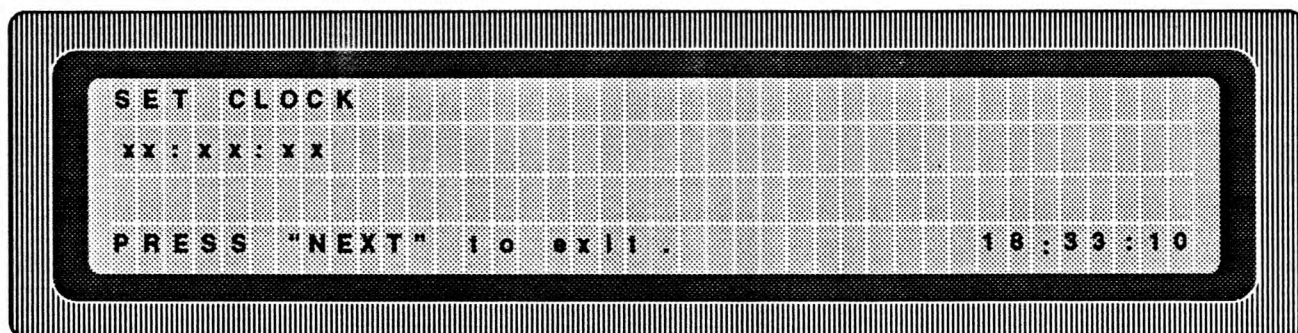

Figure 3-3. Set Clock
a. **SET CLOCK.** Figure 3-3 is the Set Clock display. Current time may be entered by the keyboard by pressing the two-digit (00 to 23) hour and then “MHZ/HRS” key. Similarly, the minutes are entered by keying a two-digit minute (00 to 59) and pressing the “MIN” key. The seconds entry is similar, except the clock is not updated until key “SEC/ENTER” is released. The time-of-day will be continuously shown on the display in most of the operating modes. A rear panel (J8, pin 10) 1 second TTL “tick” is available for oscilloscope time comparison (where “time” is the rising edge of the 0.5 ms tick pulse). In SET CLOCK, the TIME LED will flash on/off: 1 second on, 1 second off. The moment the LED turns on or off indicates the exact start of a one second period, which coincides with the 1 second “tick” at the rear panel. The clock can be fine tuned by turning the tuning knob. To enable the tuning knob press the ENABLE button; the ENABLE LED will light. Then adjust the internal clock, 100 ms per knob revolution (CW to advance, CCW to retard). Pressing the ENABLE button again will disable the TUNE knob, and the ENABLE LED will go off. Press NEXT to return to the SET CHIRP parameters menu.